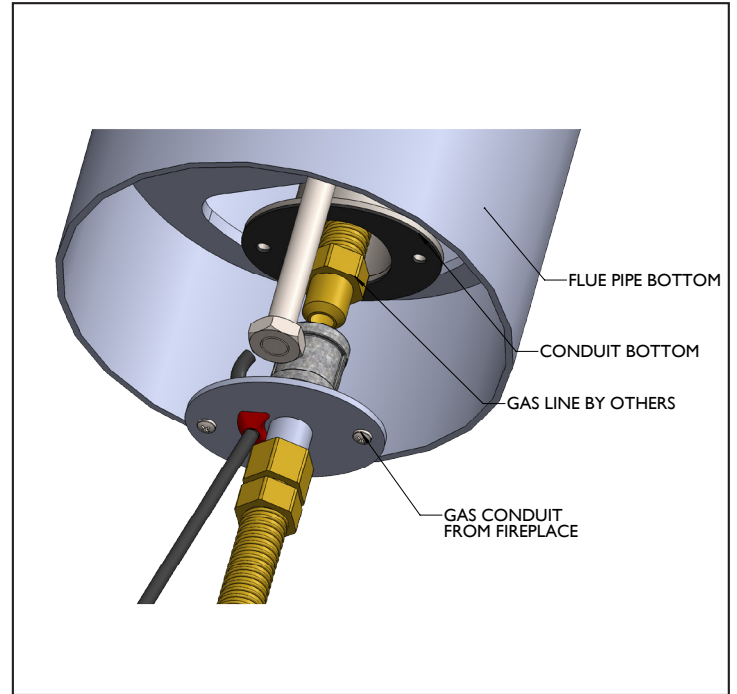

Figure.9
**THE CONNECTION DETAIL:** Since this connection must be air-tight, the gas line from the burner is equipped with a special flanged nipple. There are two holes in the flange (See Figure 9).